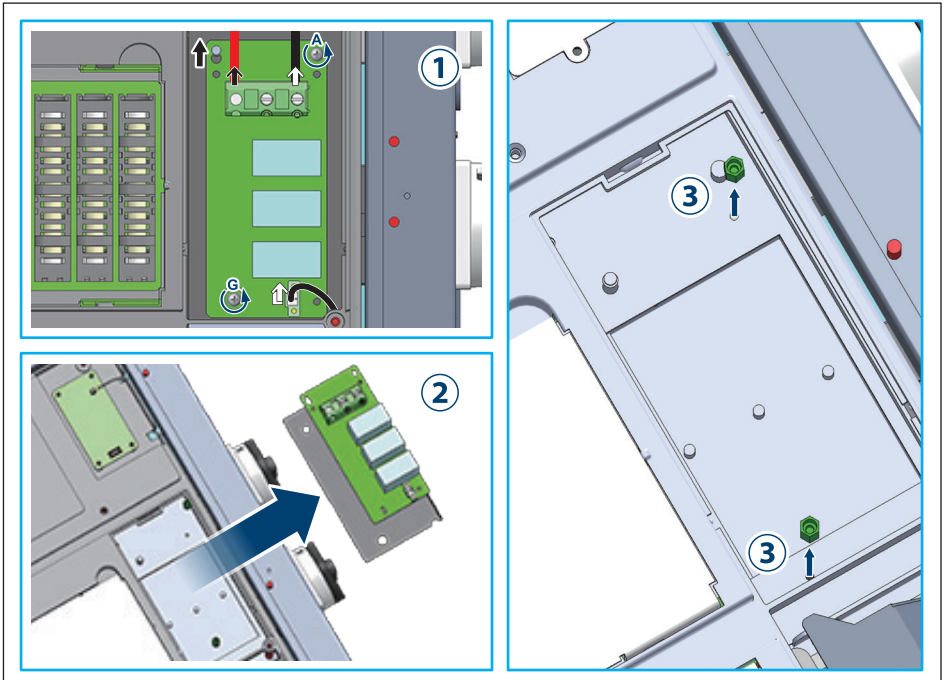

Figure A-4: Disassemble and remove two screws to remove DC SPD PCB
2. Disassemble and remove two screws and DC SPD PCB refer **Figure A-4**.
3. Remove the Copper column (**Figure A-4** ③)